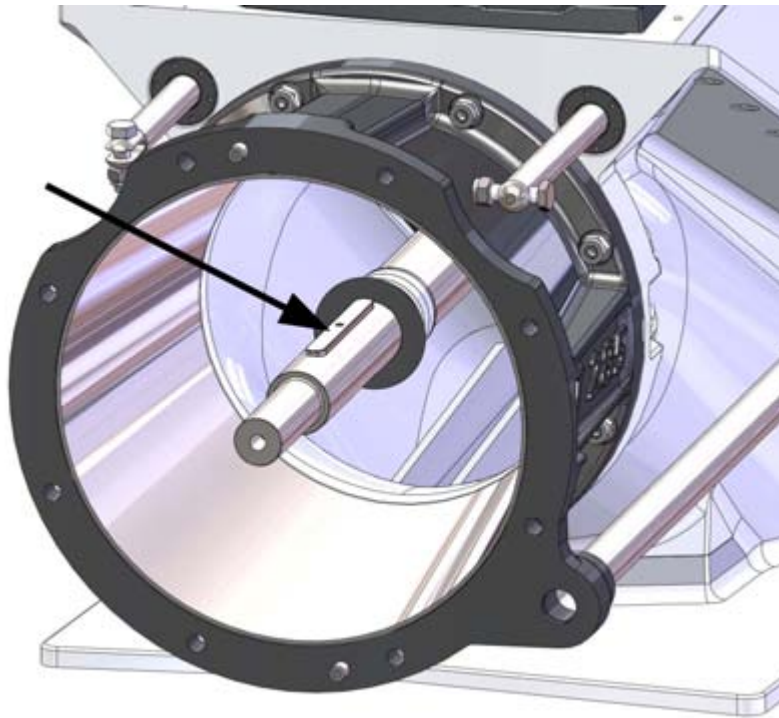

Figure 34. Keyway
6. Once you have found the right adjuster sleeve length, place the key in the shaft keyway (figure 34) and push the impeller on to the shaft against the isolation ring.
6. Once you have found the right adjuster sleeve length, place the key lubricated with waterproof petroleum jelly (such as Shell Gadus S2 V220AC or similar) in the shaft keyway (figure 34) and push the impeller onto the shaft against the adjuster sleeve.